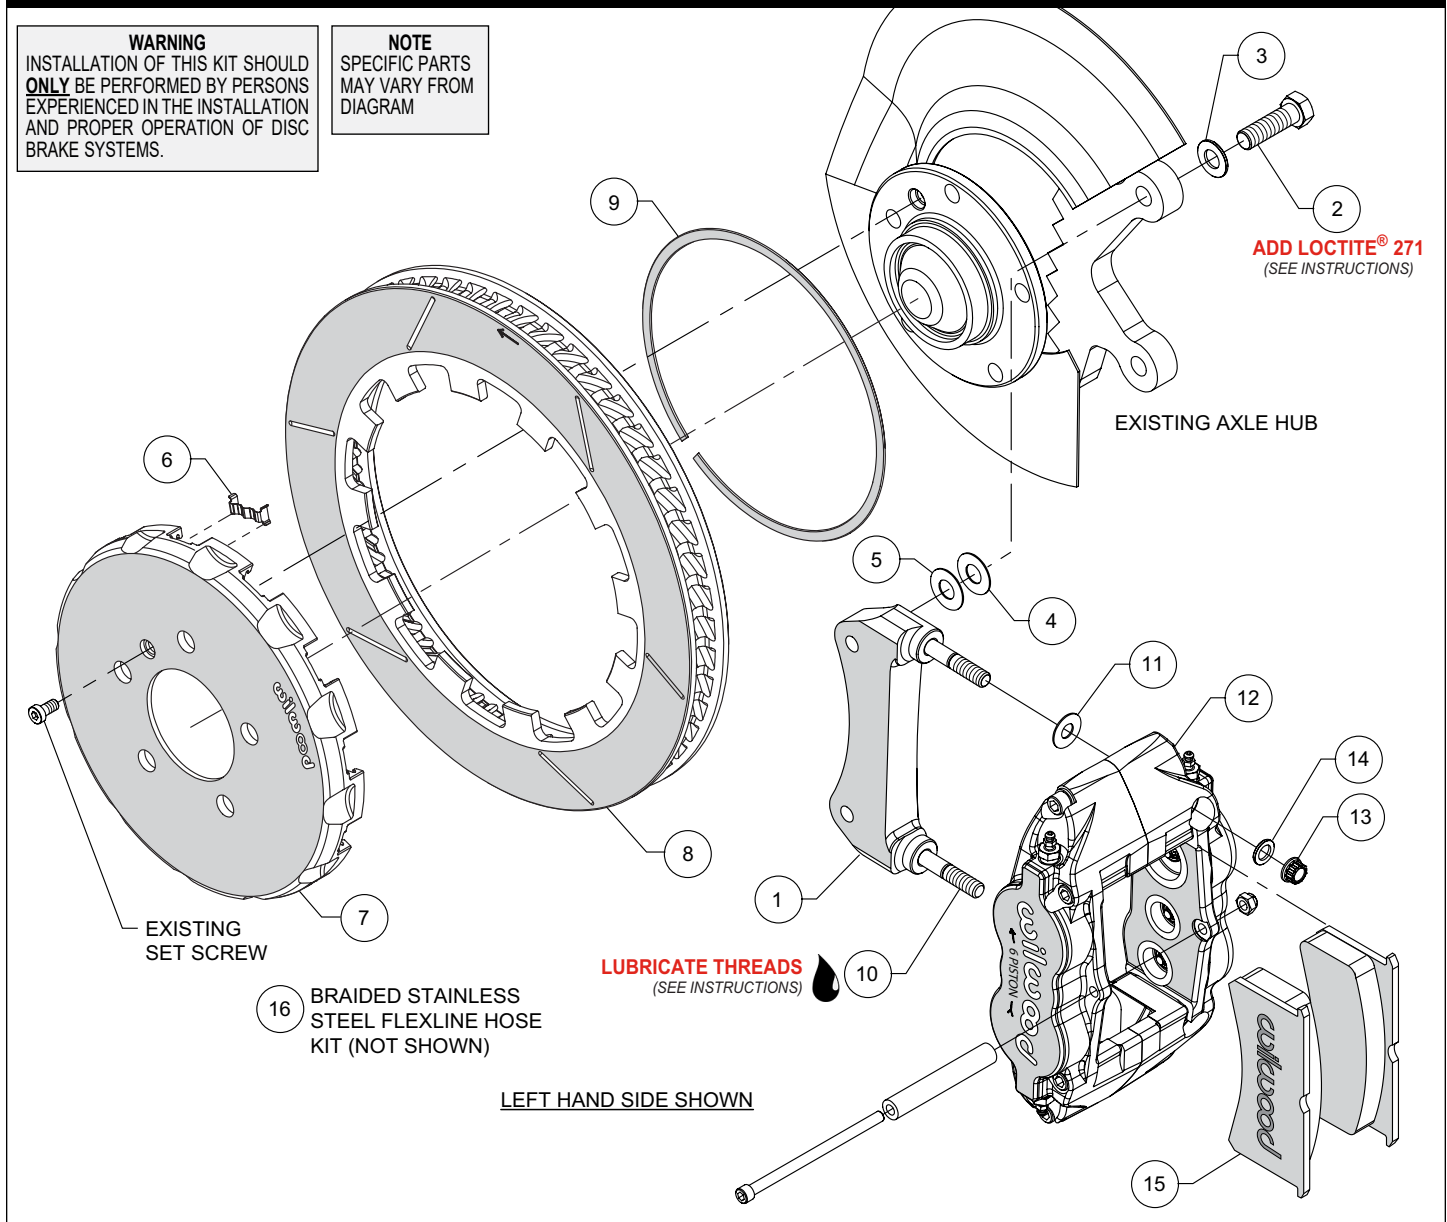

Figure 1. Typical Installation Configuration
NOTE: Numbers in parenthesis refer to the parts list and Figure 1 on the preceding pages.
- The caliper mount bracket (1) should initially be installed with clean, dry threads on the mounting bolts. Orient the bracket, as shown in Figure 1 and Photo 1, and install using bolts (2) and washers (3). Initially place one .033" thick shim (4) on each bolt between the bracket and upright, Figure 1. Temporarily tighten the mounting bolts. **NOTE:** *The bracket must fit squarely against the mount bosses on the upright.* Inspect for interference from casting irregularities, machining ridges, burrs, etc. Later, after the caliper alignment has been checked, the mount bolts will be secured using red Loctite® 271.
- Insert the dynamic mount wear clips (6) into the slots in the hat (7), Photo 2. Orient the rotor (8) as shown in Figure 1 and Photo 3, with the flush side of mount lugs facing the hat. Secure the rotor to the hat using the snap ring (9) by simultaneously pushing down on the rotor and installing the ring into the groove in the hat, as shown in Photo 4. Carefully inspect snap ring to ensure complete engagement in the groove.
- NOTE:** *This kit contains distinct right and left hand calipers that must be mounted in a specific direction, as described below.* Lubricate the caliper mounting studs (10) with lightweight oil. Initially place one .035" thick shim (11) on each stud between the caliper (12) and the bracket (1), as shown in Figure 1 and Photo 6. Mount the caliper (12) onto the bracket (1) using lock nuts (13) and washers (14), Figure 1. Ensure that the caliper is mounted so the largest pistons are at the rotor exit end of the caliper, in relation to the forward rotation of the rotor. Temporarily tighten the lock nuts and view the rotor through the top opening of the caliper. The rotor should be centered in the caliper, Photo 7. If not, adjust by adding or subtracting shims (4 and/or 5) between the bracket and the upright. Always use the same amount of shims on each of the two mounting bolts. Once the caliper alignment is correct, remove the bracket mounting bolts (2) one at a time, apply red Loctite® 271 to the threads, and torque to 60 ft-lb.
- Remove the caliper pad retainer bolt, nut, and tube from the caliper. Insert the brake pads (15) into the caliper, with the friction material facing the rotor, as shown in Photo 8. Check that the top of the brake pad is flush with the outside diameter of the rotor, Photo 9. If not, adjust by adding or subtracting shims (11) between the caliper and the bracket. After the caliper pad height is set, torque the caliper lock nuts (13) to 30 ft-lb. Secure the brake pads in place with the pad retainer tube, bolt, and locknut, Photo 10. The locknut should be snug without play in the bolt or tube. Be cautious not to over tighten.